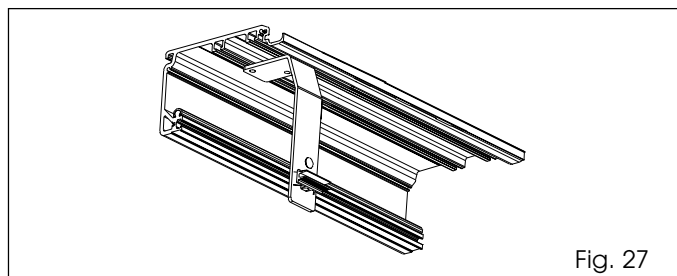

Fig. 27
- Fit a housing fixing bracket at the end of the head profile, opposite the motor unit, using the supplied screws and plates (fig. 27).